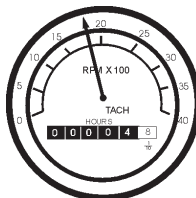

Figure 51. Engine Tachometer Gauge
13. The tachometer gauge (Figure 51) will indicate the speed of the engine when the generator is operating. Under normal operating conditions this speed is approximately 1800 RPM's.